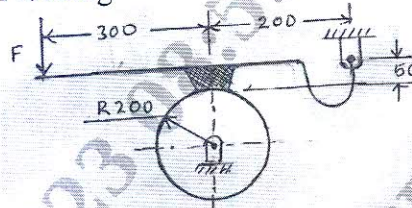

Fig. Q8 (a)
- b. A differential band brake is shown in Fig. Q8 (b). The width and thickness of the steel band are 100 mm and 3 mm respectively and the maximum tensile stress in the band is 50 N/mm^2 . The coefficient of friction between the friction lining and the brake drum is 0.25. Calculate